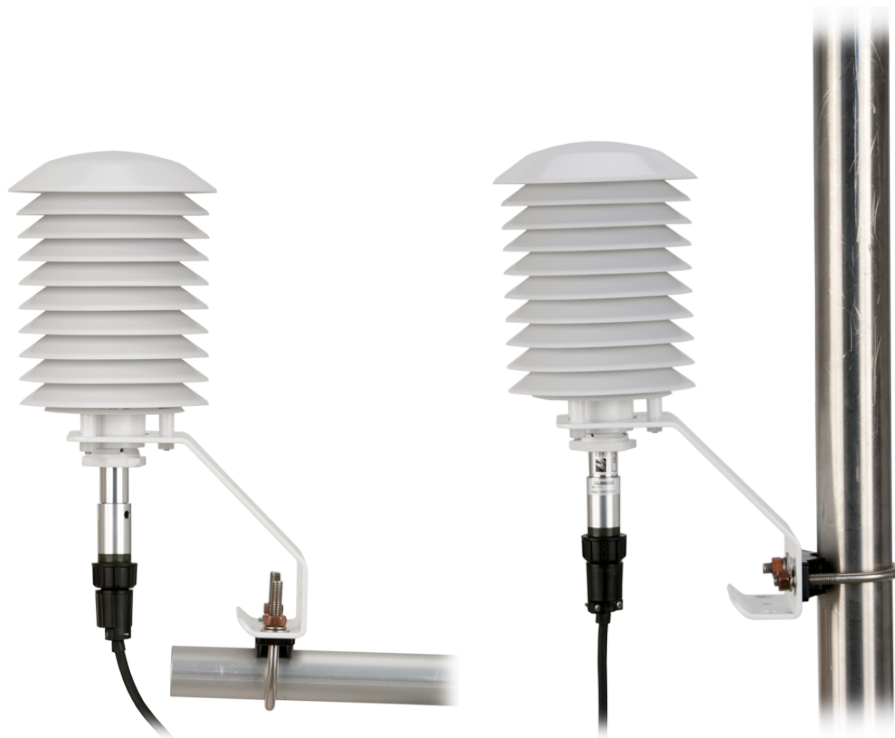

FIGURE 7-1. 083E and 41003-5 Radiation Shield on a CM200 Series Crossarm (left) and on a tripod mast (right)
The 41003-5 and RAD14 Radiation Shields attach to a crossarm, mast, or user-supplied pipe with a 2.5 to 5.3 cm (1.0 to 2.1 in) outer diameter. See FIGURE 7-1 for examples of shield mounting.
2. Insert the 083E sensor through the center of the hex plug. See FIGURE 7-1.
1. Attach the radiation shield to the tripod mast, crossarm, or tower leg using the supplied U-bolt. See FIGURE 7-1 for examples of shield mounting.